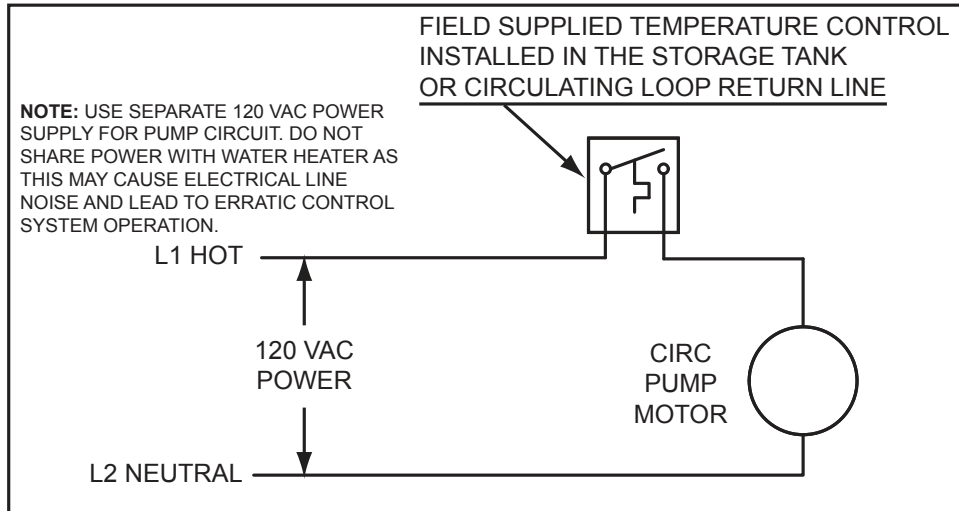

Figure 70. Circulating Pump Wiring Diagram - Storage Tank or Building Recirculation
- 6. If a pump is being installed between a water heater and storage tank or on a building recirculation loop wire according to *Figure 70* (page 72).
6. If a pump is being installed between a water heater and storage tank or on a building recirculation loop according to *Figure 70* (page 72).